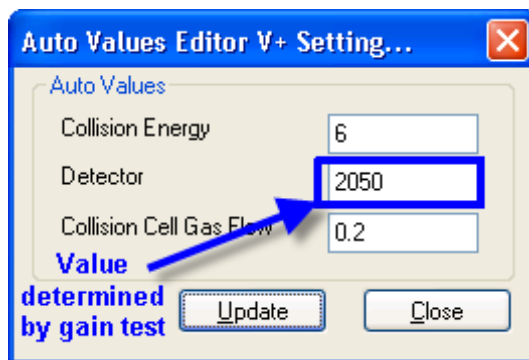

Figure 25 - Auto values dialog box
16. Click **System > Auto Values** to open the Auto Values dialog box (Figure 25).